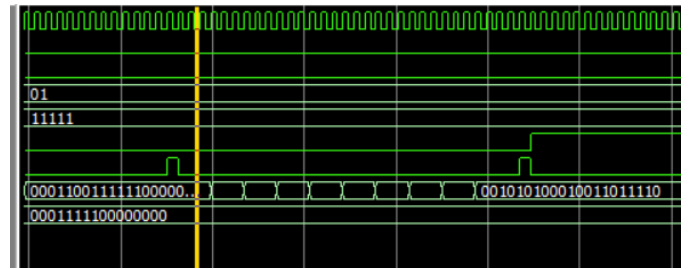

Fig. 30 Third and fourth simulation results
- $2^*e^{0.9687} = 00101.0100010011011110$ (Fig 30)
Fig. 30 resources of FPGA for Exponential Accelerator Wrapper